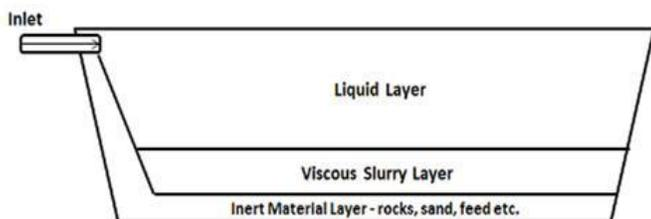

Figure 3 – Typical pond sludge accumulation layers
Three different layers are likely to be found within an anaerobic pond (Figure 3).
1. Inert material (rocks, sand, feed etc.) accumulate near the inflow pipe(s) and drift to the base of the pond (Figure 3). This sediment is solid in nature with an easily identifiable interface between the other layers.